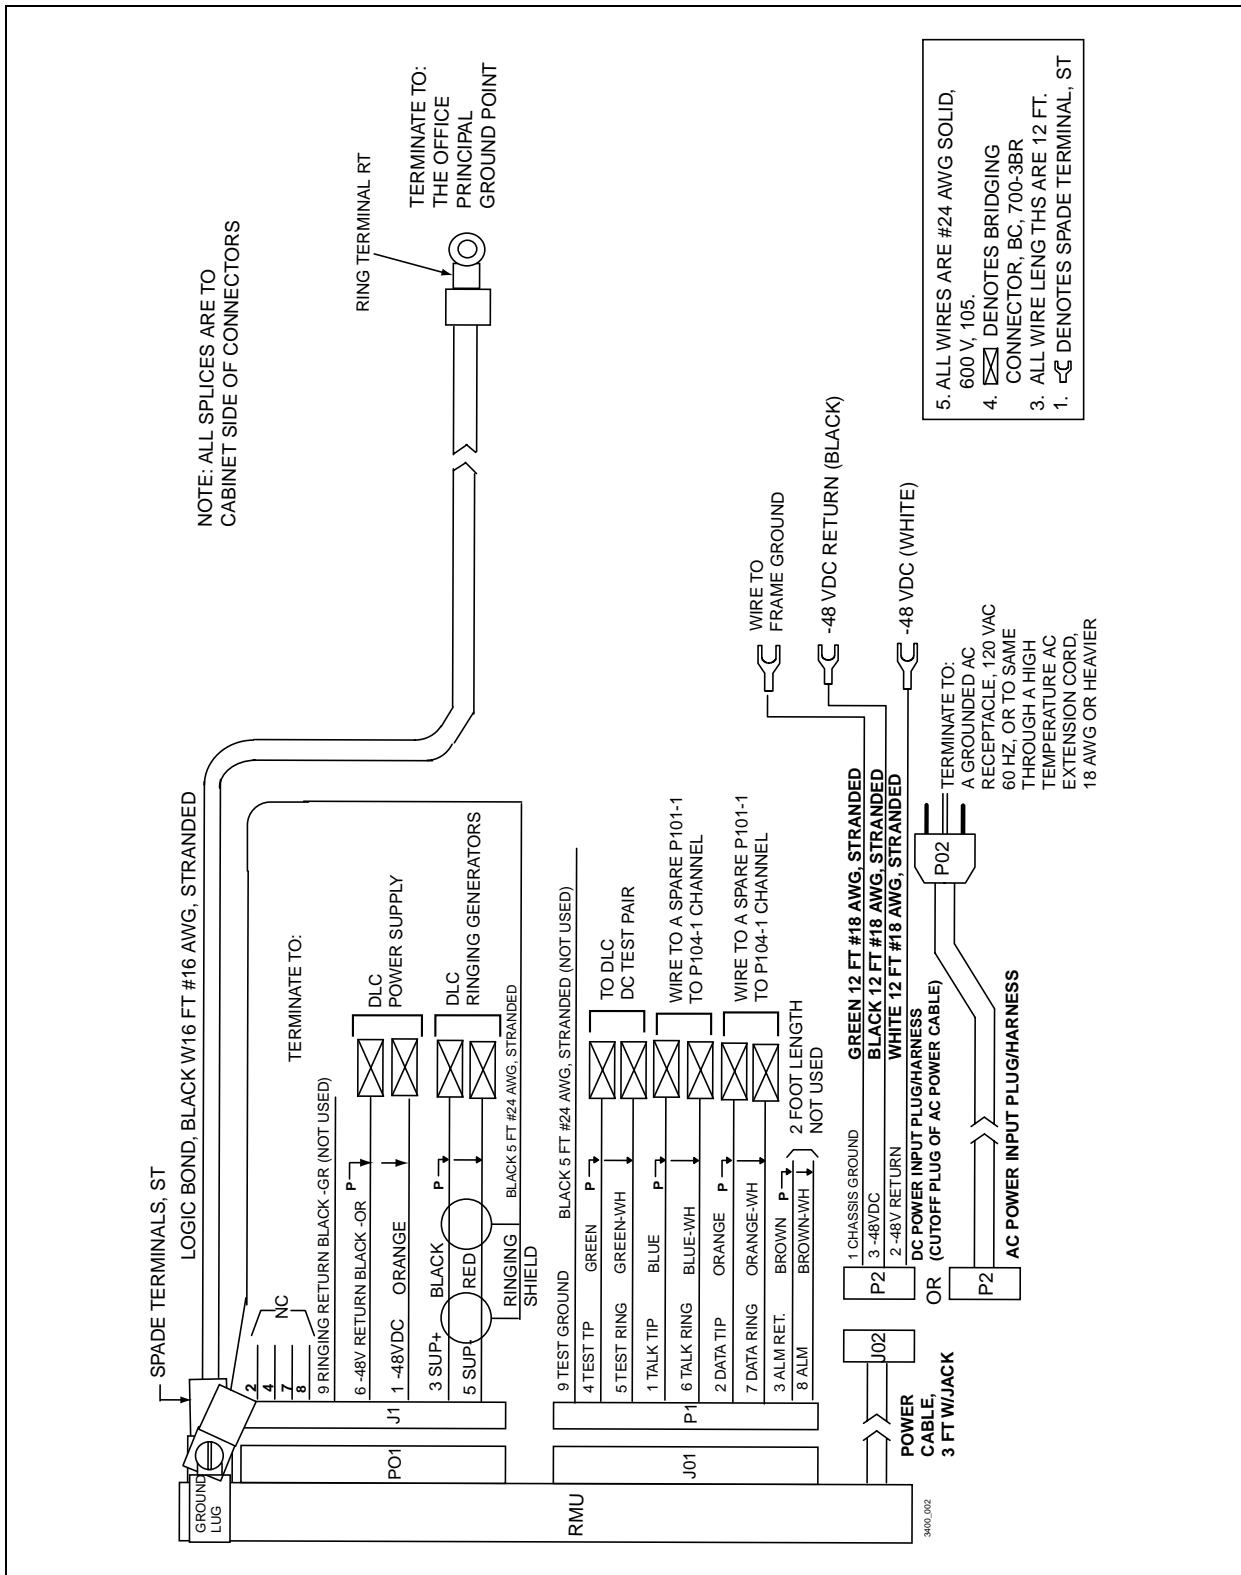

Figure 1-7. Universal Wiring Diagram
4. Attach (crimp or screw down) the black wire to the carrier system's positive Super Imposed (Sup +) ringing voltage. Refer to Figure 1-7.
4. Attach (crimp or screw down) the -48 Volt return (orange-black wire) to the battery return (see Figure 1-7 and Table 1-1).
4. Attach (crimp or screw down) the green-white wire to the Ring side of the DC Test Pair (see Figure 1-7 and Table 1-1).
4. Attach (crimp or punch down) the Talk Ring (blue-white wire) to the Channel Unit's Ring side (see Figure 1-7 and Table 1-2).
2. Connect the white, black, and green to -48 VDC from the carrier system's power supply, (see Figure 1-7) as well as the -48 VDC return and ground, respectively. Figure 1-7 shows a general wiring diagram for all RMU 3400 installations.